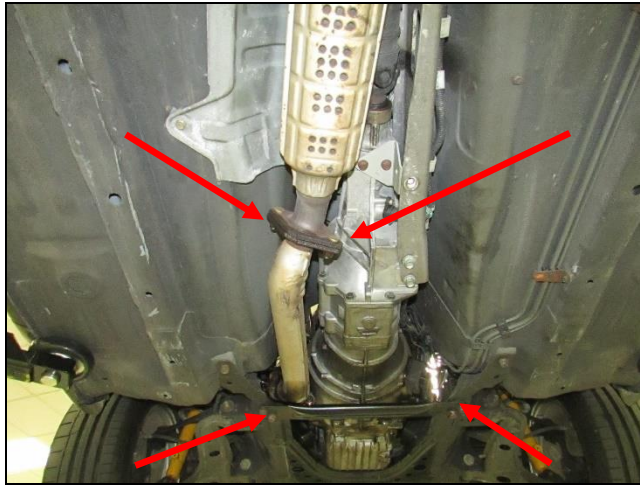

Figure 1
3. Starting under the car, remove (x2) 17mm head bolts, remove the cross brace, and remove the (x2) 17mm head nuts at the flange (Figure 1).